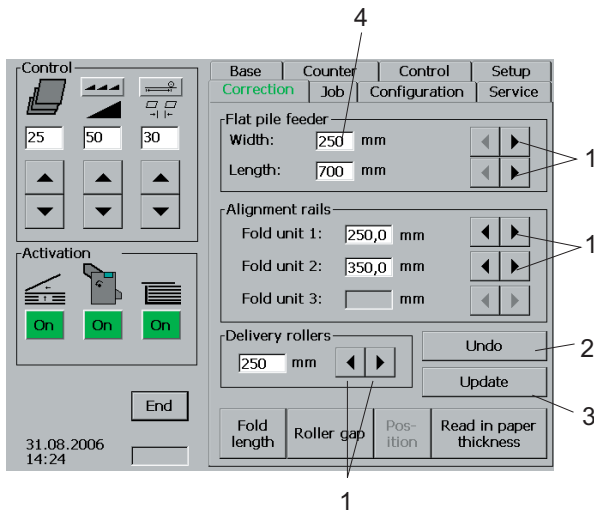

Fig. 47 Correction of position
1. Keep pressing the *arrow* key (Fig. 47/1) until the correction value is reached.
You can cancel incorrect entries by touching the *Undo* key (Fig. 47/2).
2. When entering the corrections is complete, touch the *Update* key (Fig. 47/3). This command activates the automatic adjustment of all corrections that have been entered. The *Update* key can be touched after each individual correction or after changing all corrections.
1. Touch the input window (Fig. 47/4). A numerical keyboard pops up.